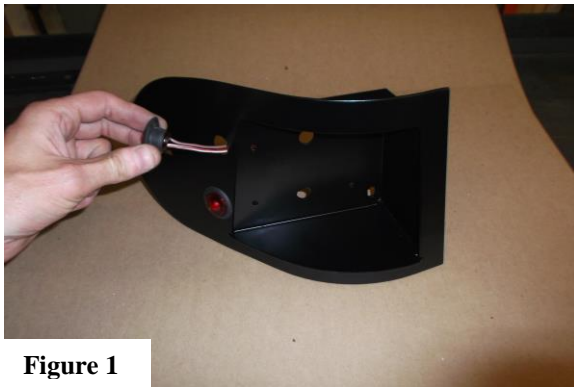

Figure 1
- a. Insert two of the Red 1" Side Marker lights by threading the wires through the $\frac{3}{4}$ " holes from the outside, and simply press into place. (See **Figure 1**).